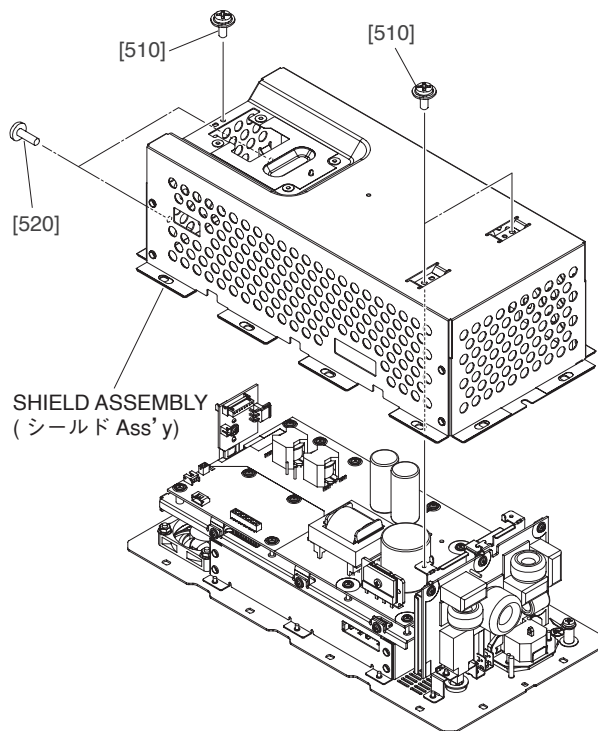

Fig. B-3 (図B-3)
- B-3-3 Remove the three (3) screws marked [510] and two (2) screws marked [520]. The shield assembly can then be removed. (Fig. B-3)
- B-3-3 [510] のネジ 3 本と [520] のネジ 2 本を外して、シールド Ass'y を外します。(図 B-3)